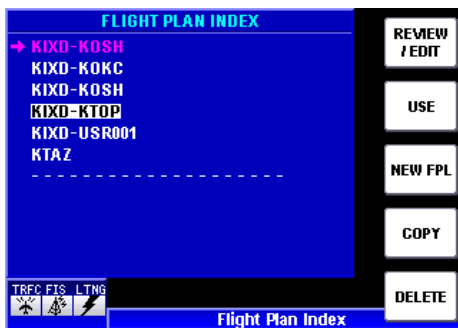

Figure 1-118
1. Press the **FPL** Key to display the **FLIGHT PLAN INDEX** Page as seen in Figure 1-118. Note that the current active flight plan is displayed in magenta with an arrow at the top of the list stored flight plans.